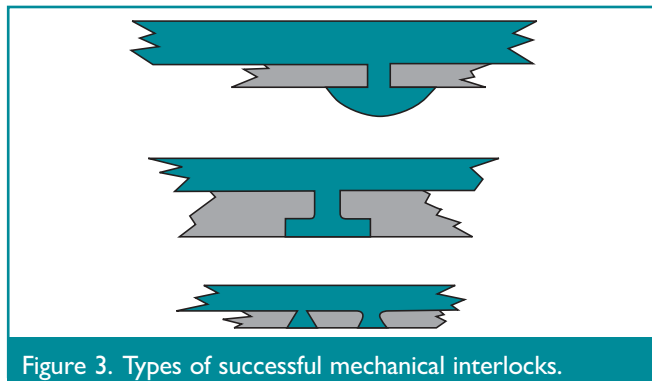

Figure 3. Types of successful mechanical interlocks.
**Figure 3** illustrates three mechanical interlock design options that can be utilized to optimize finished component bond strength.